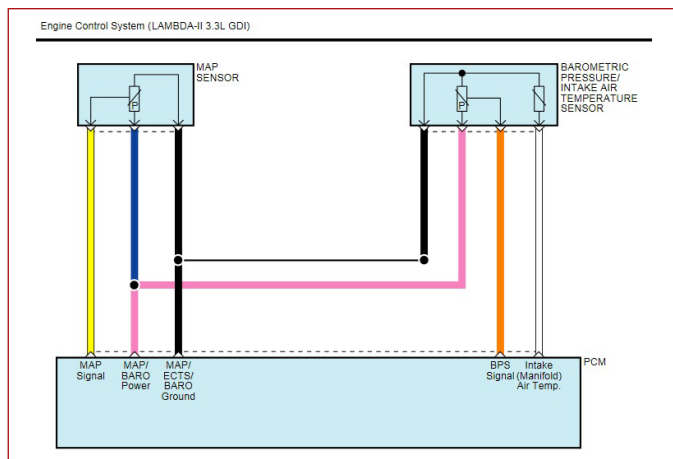

Fig. 1: 2014-2016 3.3 Liter V6 Lambda Engine IAT/BPS/MAP Electrical Schematic
The 3.3L Lambda II GDI engine was first applied to 2014 Cadenza (YG) / Sorento (XM) and also fitted to the 2015 Sedona (YP) and 2016 Sorento (UMa) models, uses a MAP Sensor and a combined BPS and IAT sensor to measure and calculate air density and determine the engine's air mass flow rate. All 3 sensors operate using a single 5 Volt supply-feed and a single sensor-ground wire from the ECM/PCM (see Fig. 1 MAP/BARO Power and MAP/ECTS/BARO Ground ECM terminals).
The MAP and IAT sensors operate using a single 5 Volt Power-feed and a single ground wire from the ECM/PCM (see Fig. 1 MAP Power and Ground ECM terminals).
Pull-Up or Pull-Down Switch Circuit (Fig 1, this page)